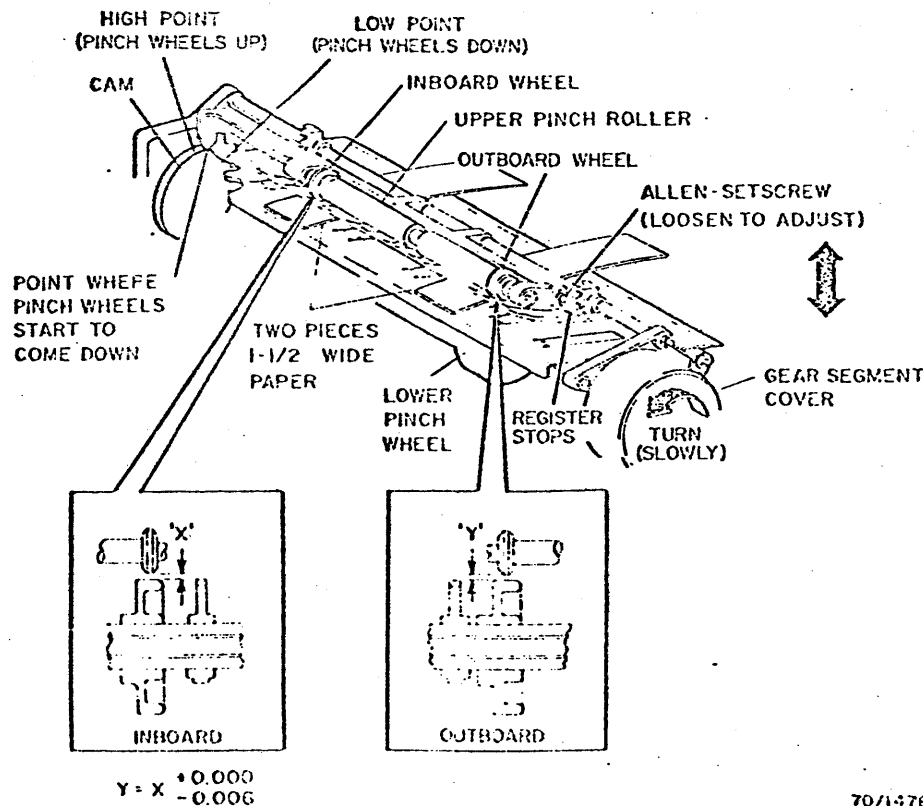

Fig. 3-120. Upper Pinch Wheel
2. Place two 1-1/2-inch pieces of paper under the upper pinch wheels, but between the stop fingers. Line both papers up with the leading edge of the lower paper guide (Fig. 3-120).